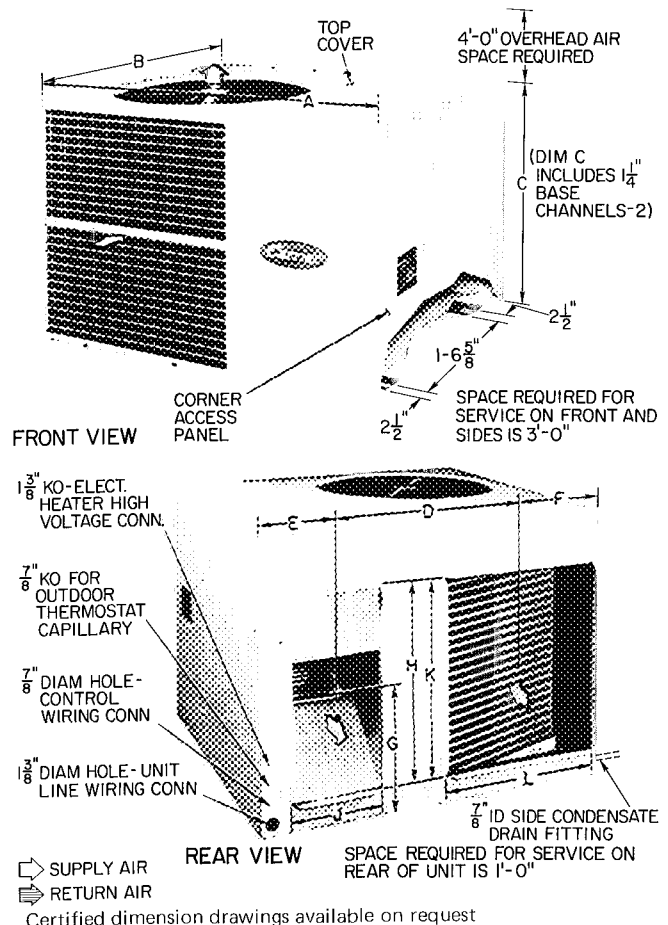
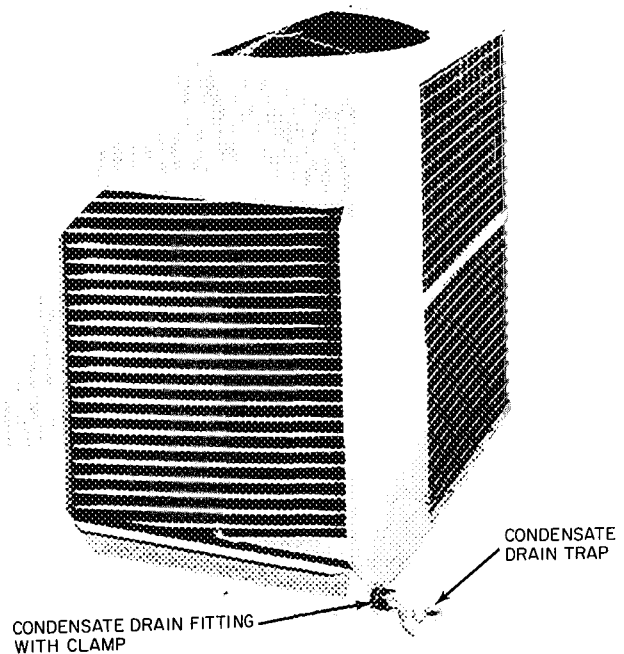
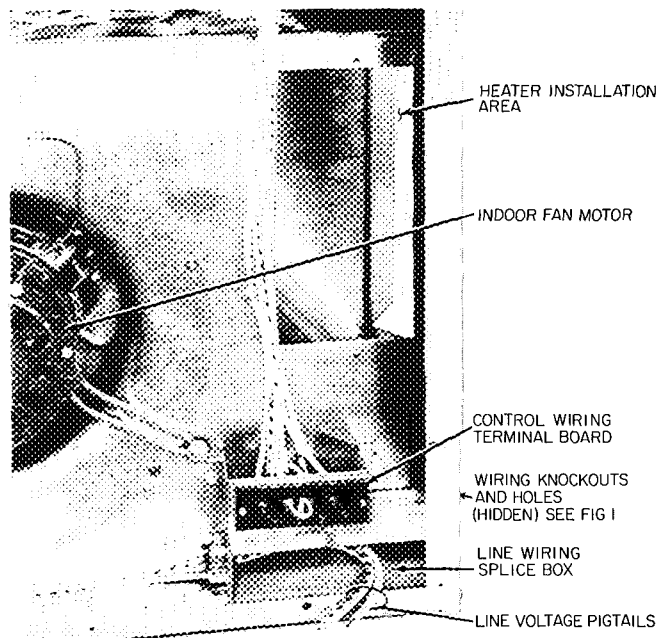

Fig. 1 — Dimensions and Connections
Fig. 4 – Condensate Drain Connection
Fig. 5 – Unit Wiring Terminal Location
- Provide sufficient space for coil air flow clearance, wiring, and servicing unit. (See Fig. 1.)
Table 1 — Installation Data (See Fig. 1.)
Step 5 – Connect Supply and Return Air Ductwork to unit supply and return air duct connections. Refer to Fig. 1 and Table 1 for unit supply and return air connection sizes and locations.
Step 6 – Connect a Drain Line to rubber condensate drain fitting on side of unit (see Fig. 1). Use clamp provided. Install factory-supplied condensate trap (taped to indoor fan housing for shipment) at end of drain line. If a drain line is not used, connect condensate trap to unit drain fitting as shown in Fig. 4.
Step 8 – Bring Line Power Leads Into Unit. Extend leads from fused disconnect thru hole provided (Fig. 1) into line wiring splice box (Fig. 5).
Step 11 – Control Power Wiring (24 v) is brought through 7/8-in. hole provided in unit, Fig. 1. Extend leads to unit control wiring terminal board, Fig. 5. Connect leads to terminal board as directed in Fig. 7.